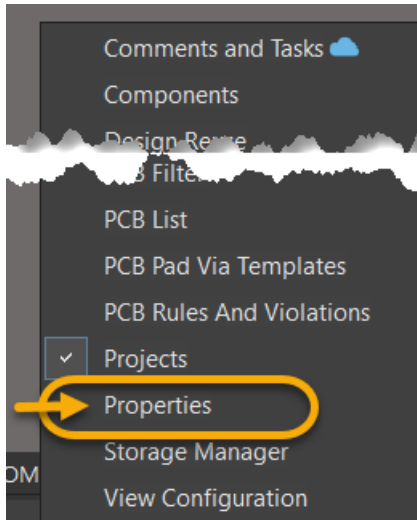

Figure 11. PCB panels Bottom to open Properties Panel
30. Open the *Properties* panel, if not already open from the **Panels** button , Figure 11.